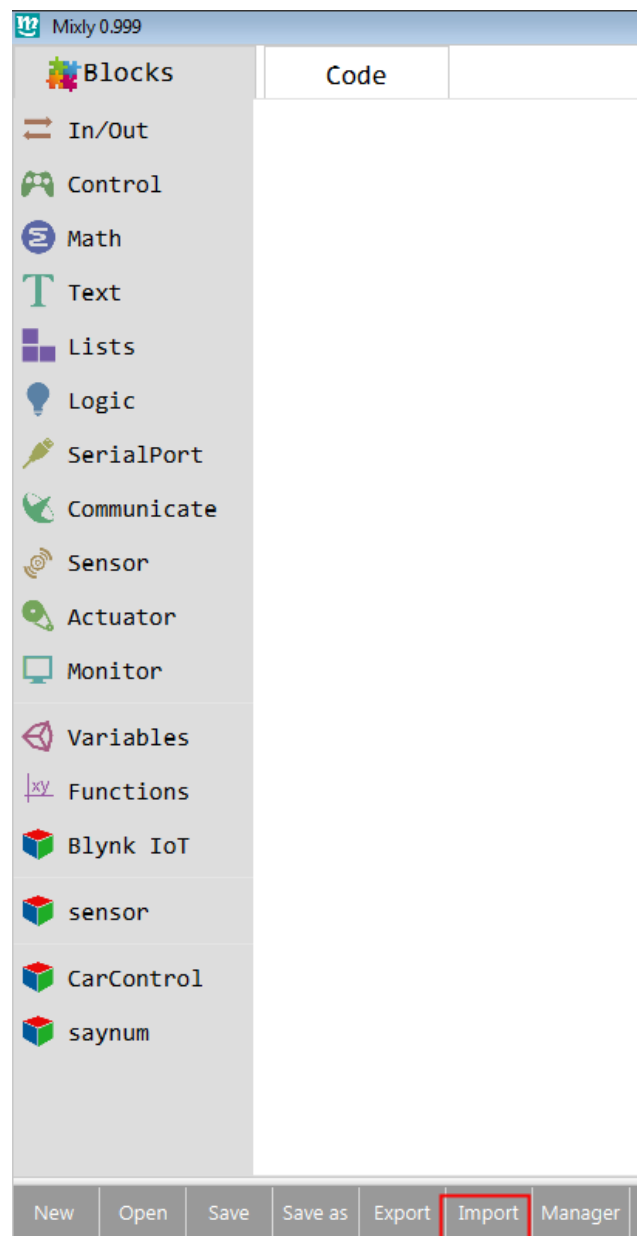

Figure 2-1
- 2) Open the Mixly software and click "Import Library", as shown in Figure 2-1